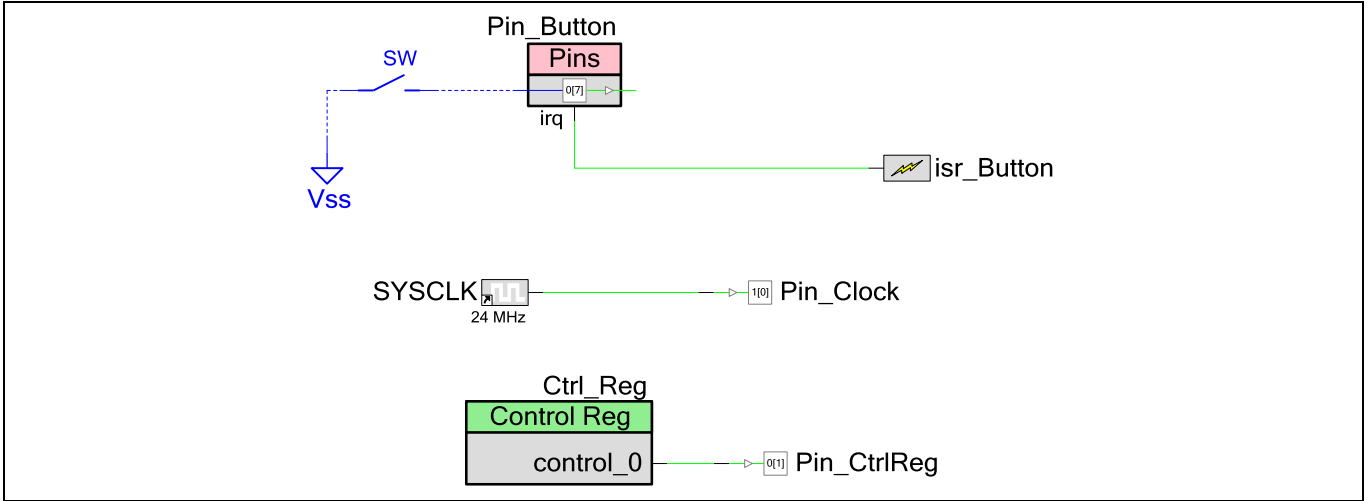

Figure 81 Avoiding glitch while exiting Deep Sleep
- Configure the components as shown in Table 10. Connect the components as shown in Figure 81.